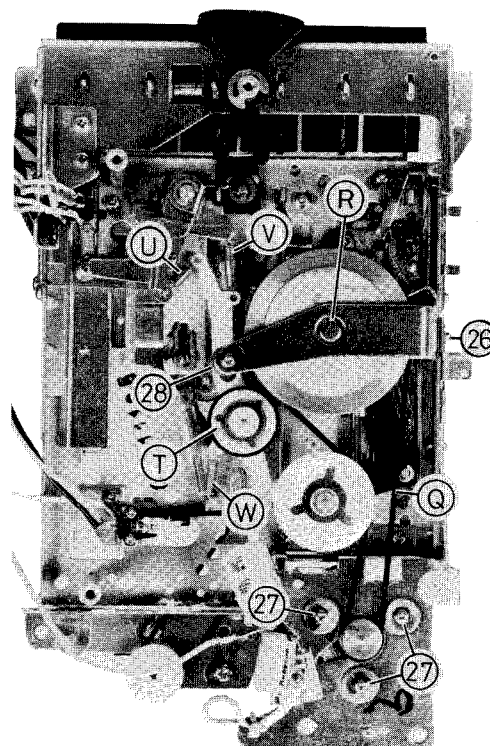

Fig. 9
Main Belt (Q) (Refer to Fig. 9)
1. Remove the screw (26):LPSP2605Z.
2. Remove the flywheel bracket (R).
Motor (S) (Refer to Fig. 9)
F.F. Idler Ass'y (T) (Refer to Fig. 9)
1. Remove the flywheel bracket (R).
2. Detouch 3 springs (U), (V) & (W).
3. Remove the E-ring (28):REE4000.